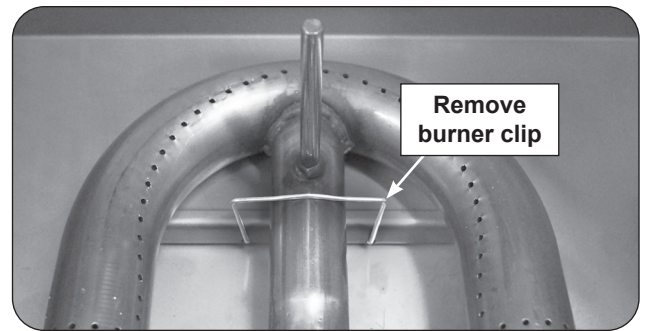

Fig. 47-2 Burner clip removal
2. Locate the burner clip (located over the rear center tube of the burner) and slightly pinch and remove the clip from the burner support (see Fig. 47-2).